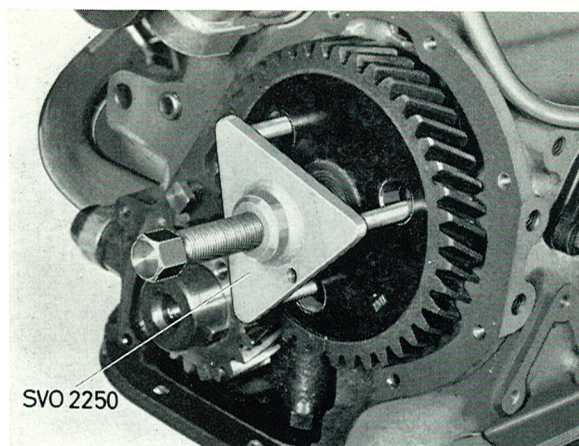

Fig. 2-45. Removing the camshaft gear
4. Remove the camshaft nut and pull off the gear by using puller SVO 2250, see Fig. 2-45.